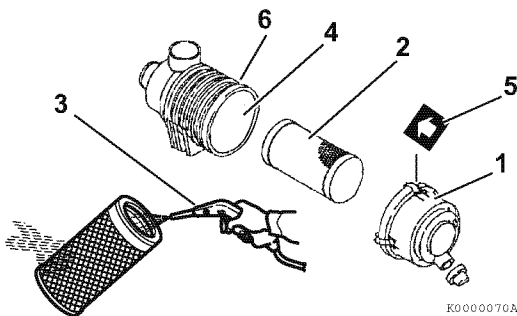
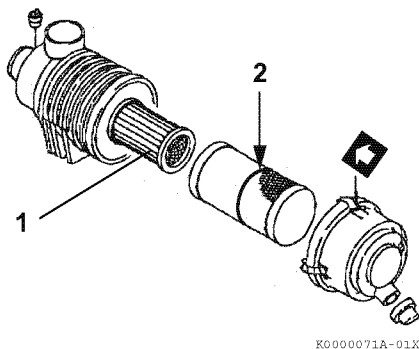

Figure 13
Figure 14
Note that a typical air cleaner is shown in **Figure 13** and **Figure 14** for illustrative purposes only.
1. Unlatch and remove the air cleaner cover (1, **Figure 13**).
2. Remove the element (2, **Figure 13**) (outer element if equipped with two elements).
3. Blow air (3, **Figure 13**) through the element from the inside out using 42 - 71 psi (0.29 - 0.49 MPa, 3.0 - 5.0 kgf/cm²) compressed air to remove the particulates. Use the lowest possible air pressure to remove the dust without damaging the element.
4. If the air cleaner is equipped with a double element, only remove and replace the inner element (1, **Figure 14**) if the engine lacks power or the dust indicator actuates (if equipped).
7. Reinstall the element into the air cleaner case (4, **Figure 13**).
*Note: If there is a red line (2, **Figure 14**) in the outer element, reinsert the element until the overlap position of red line and end face of the air cleaner case.*
8. Reinstall the air cleaner cover making sure you match the arrow (5, **Figure 13**) on the cover with the arrow on the case (6, **Figure 13**).
Replace the air cleaner element (2, **Figure 13**) every 500 hours even if it is not damaged or dirty.
When replacing the element, clean the inside of the air cleaner case (4, **Figure 13**).
If the air cleaner is equipped with a double element, only remove and replace the inner element (1, **Figure 14**) if the engine lacks power or the dust indicator actuates (if equipped). This is in addition to replacing the outer element.